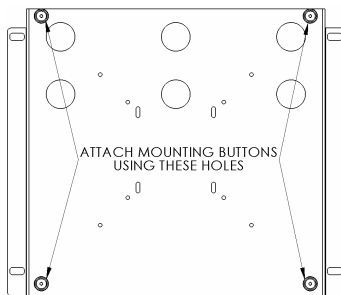
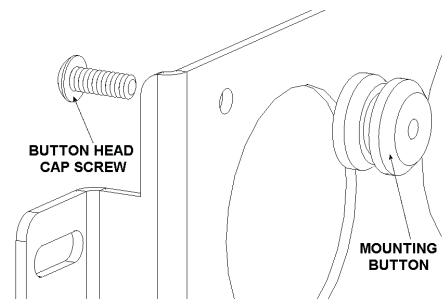

Figure 2
Figure 3
1. Attach mounting buttons to bracket using a 10-24 button head cap screw inserted from back side of bracket (see Figure 2 & Figure 3).